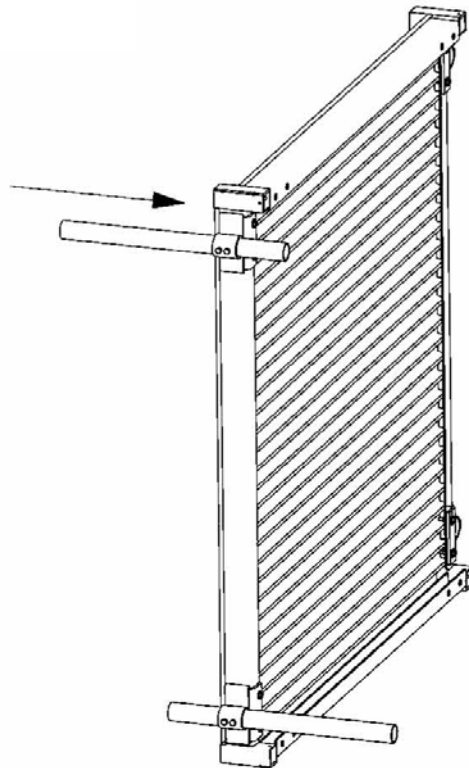

FIG 10
- i) Tip the platform on its side. Have one person support the platform while the other person slides the support tubes into the platform saddle brackets. Adjust the support tubes to the approximate height needed (FIG 10).